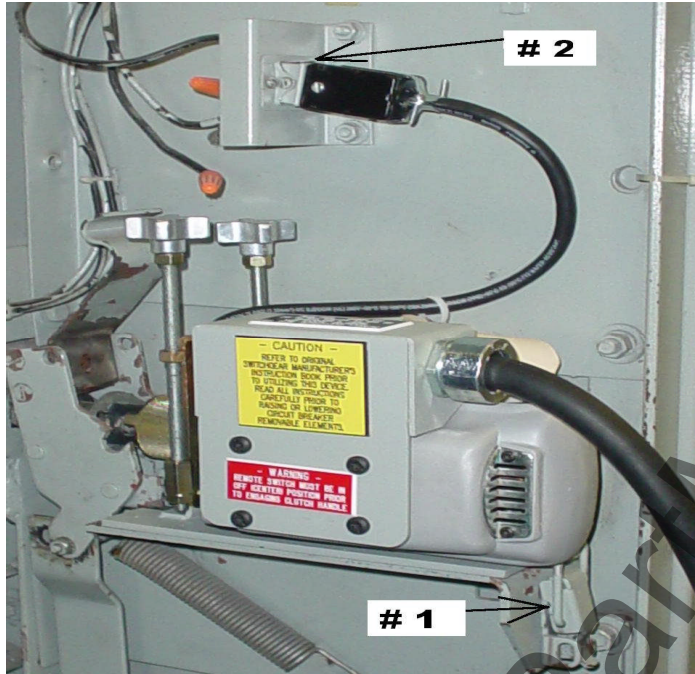

Figure 1 – Mounting Device
3. Place Powell remote racking motor onto motor shelf in cubicle. {Figure 1}
4. Latch the motor plate into place – cubicle latch {Figure 1, item 1} should latch onto the tab on the rear of the motor base plate. There is also a guide pin on the bottom of the base that should match the hole in the cubicle mounting plate. Powell motor should mount in place the same way the original motor mounted in place.
5. Plug the 5 prong plug on the remote racking motor into cubicle power socket {Figure 1, Item 2}